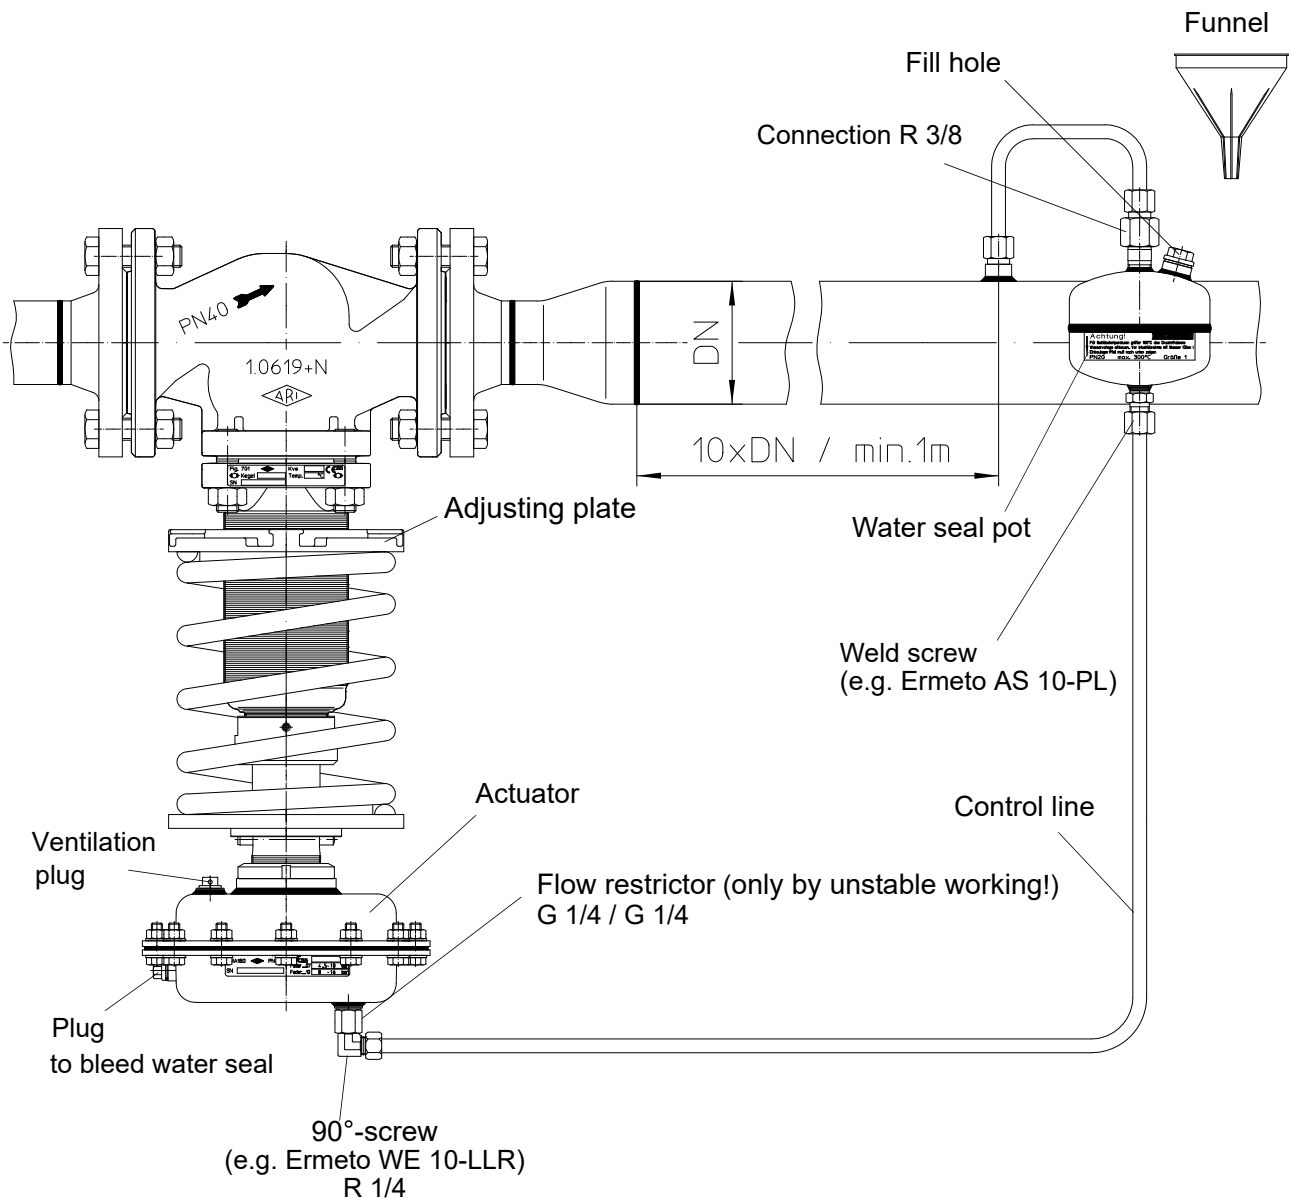

Fig. 6
- *The water seal pot is completely filled (by steam with water) and the actuator is bled by the plug (refer to Fig. 6).*